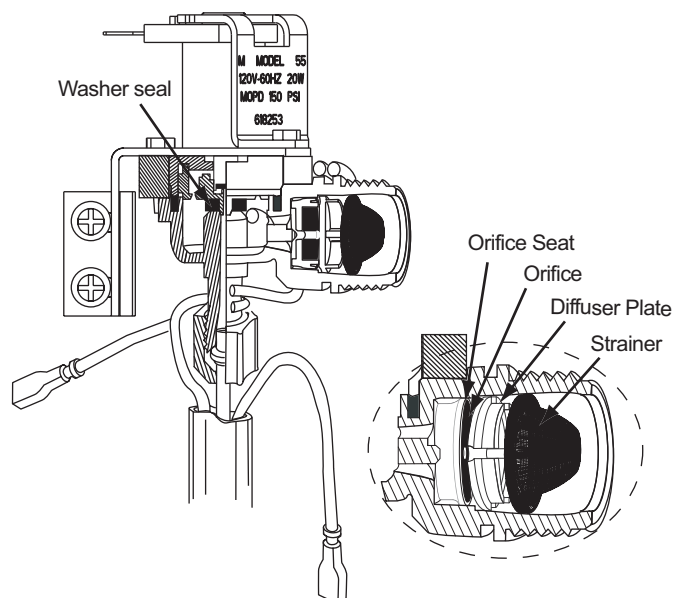

Figure 54. Solenoid water valve components
The water valve inlet strainer should be checked annually for scale and sediment deposits. The inlet connection internal components should only be checked when the mold overfills. To access the strainer and the components housed in the inlet fitting (see Figure 54):
3. Check strainer position. If the strainer is seated approximately 1/8 inch in the fitting, the orifice seat, orifice, diffuser plate and strainer are in their correct position. A creased strainer end usually indicates that the diffuser plate, orifice, and orifice seat are not in their correct position. These components should be repositioned as shown in Figure 54. To reposition components correctly: